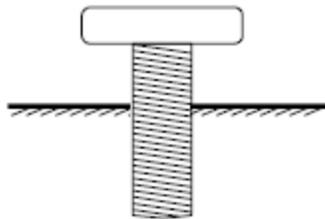
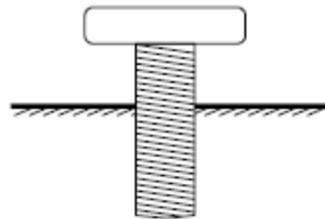

Figure 1
Figure 2
Figure 1 and Figure 2 both show the side view of a steel bolt.
- (a) Show on **Figure 1** forces acting on the bolt which would produce a tensile strain.